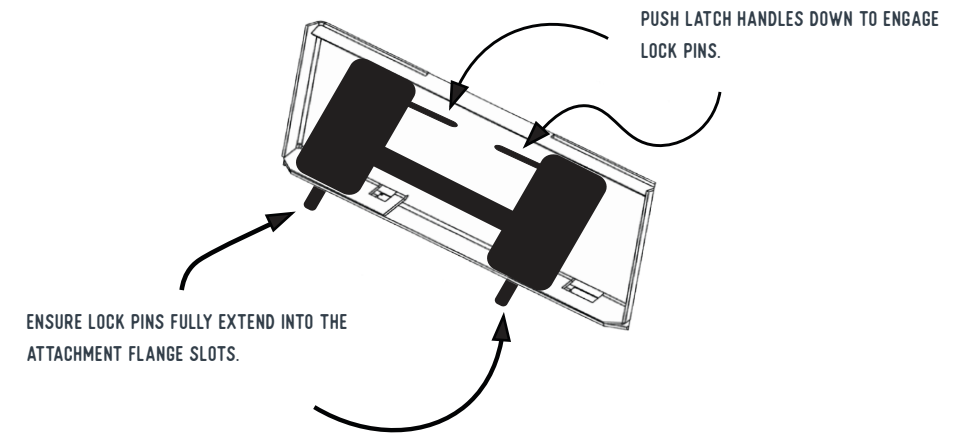

FIGURE 2.2B QUICK ATTACH MECHANISM LOCKED TO ATTACHMENT PLATE
4. Activate your skid steer's lever lock switch to lock the pins into the flange slots of the brush cutter's attachment plate. If your skid steer does not have this switch, manually lock the levers as shown in Figure 2.2b below.